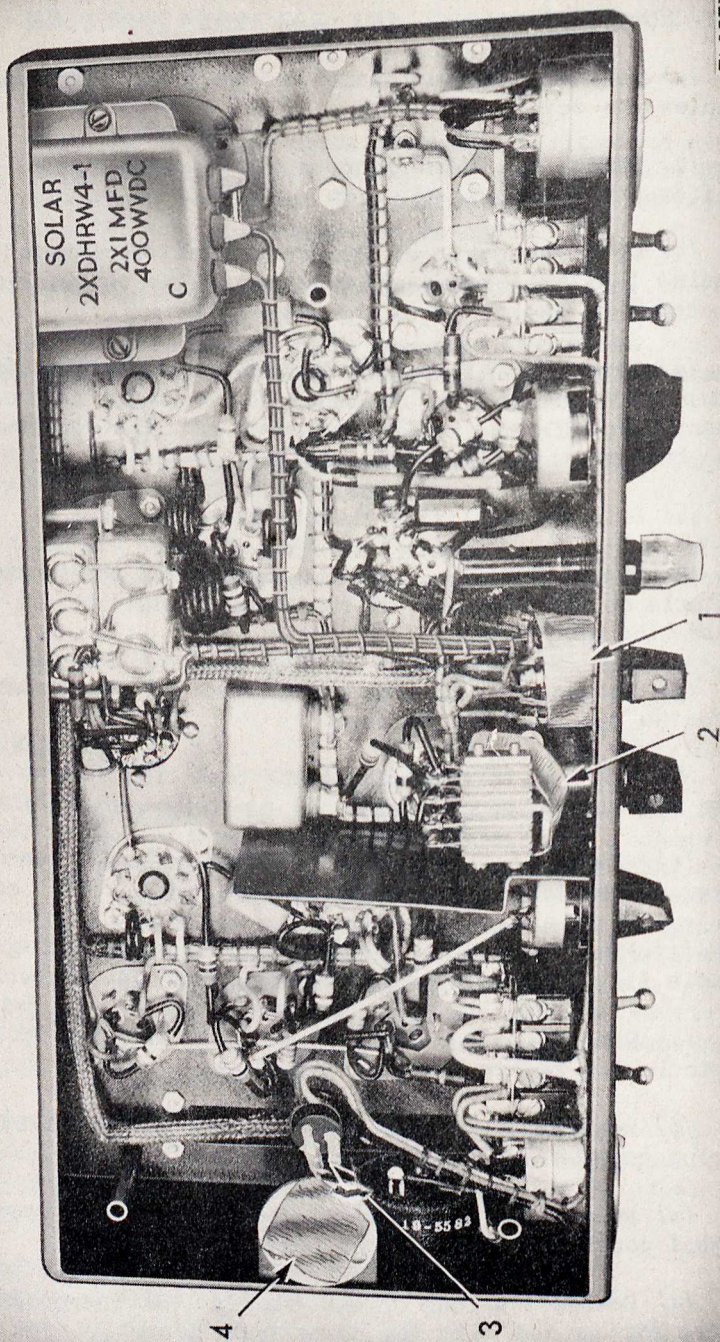

Figure 18. Amplifier chassis,
(f) Remove the screw from the side of the power supply receptacle on the underside of the chassis (fig. 18 (4)) and withdraw the plug body.
(1) Control Unit.
(a) Mask the wire selector switch on the underside of the chassis (fig. 18 (1)).
(b) Mask the contacts of the indicating lamp switch (fig. 18 (2)). Push small pieces of tissue paper between and around the contact.
(c) Wrap small strips of masking tape around the contacts of the power supply plug body (fig. 18 (3)), and mask the screw hole in the side of the plug body.
(d) Mask the opening in the power supply receptacle (fig. 18 (4)).